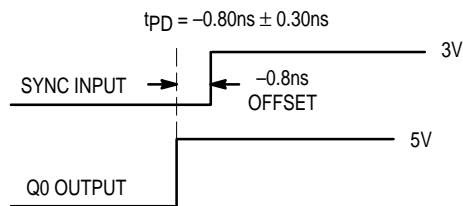

Figure 2. Depiction of the Fixed SYNC to Q0 Offset (tPD) Which Is Present When a 1M $\Omega$  Resistor Is Tied to VCC or Ground
2. A 1M $\Omega$  resistor tied to either Analog VCC or Analog GND, as shown in Figure 2, is required to ensure no jitter is present on the MC88921 outputs. This technique causes a phase offset between the SYNC input and the Q0 output, measured at the pins. The tPD spec describes how this offset varies with process, temperature, and voltage. The specs were arrived at by measuring the phase relationship for the 14 lots described in note 1 while the part was in phase-locked operation. The actual measurements were made with a 10MHz SYNC input (1.0ns edge rate from 0.8V to 2.0V). The phase measurements were made at 1.5V. See Figure 2 for a graphical description.